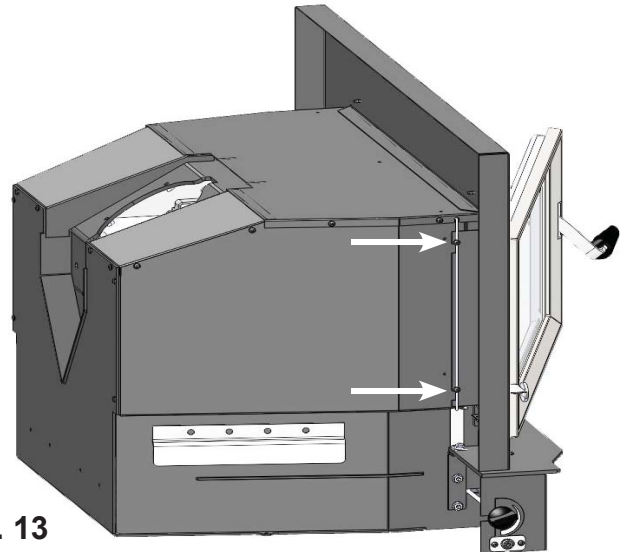

Fig. 13
2. **WITH THE LOADING DOOR OPEN**, align notches on the left side of the rear shroud with the screws protruding out of the firebox. Once in position, do the same with the right side of the rear shroud. Push back and downwards on shroud to ensure it is locked in place then tighten all four screws using a #2 Robertson screwdriver. (**Fig. 13**)